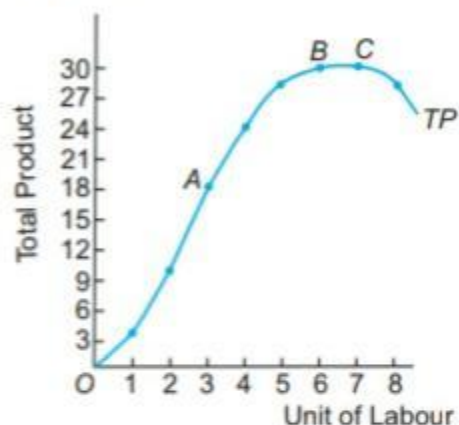

Fig. 5.1 *TP* Curve
**Shape of TP Curve.** *TP* curve starts from the origin, increases at an increasing rate, then increases at a decreasing rate, reaches a maximum and after that it starts falling. Thus, as more units of variable factor is employed, it will **not always increase** the *TP*. It is illustrated with a *TP* schedule in Table 5.1 and a *TP* curve in Fig. 5.1.
In Figure 5.1, units of labour are shown on the *x*-axis and total product on the *y*-axis. As the units of labour increase, *TP* curve increases at an increasing rate till point *A*. Then *TP* curve increases at a decreasing rate till point *B*. *TP* is maximum at point *C*. It falls after point *C*.